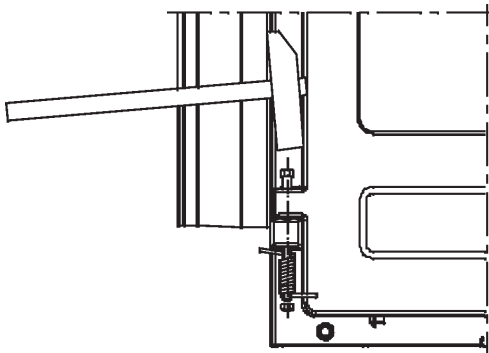

Figure 1
- Close the door, remove the front plinth, remove the pin from the lower hinge, insert the screw to protrude some 15 mm from the hinge. Fix the spring onto the screw and pull it at one end to engage the door edge. While holding the spring in the position, press the screw down and fix it with the nut (see Figure 1).